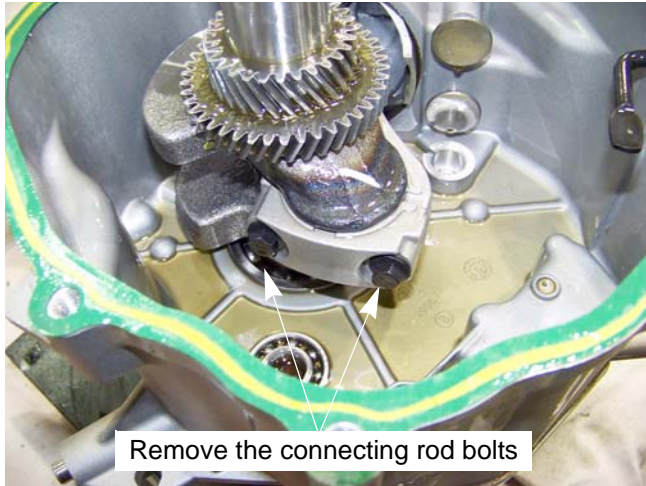

Figure 10.5
16. Remove the connecting rod cap using a 10mm wrench. See Figure 10.5.